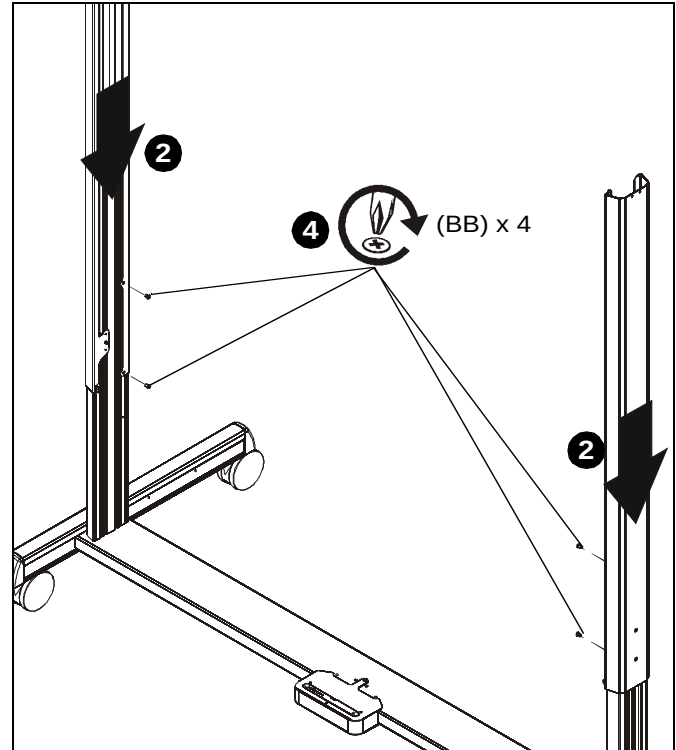

Figure 2
2. Slide two column extenders (J and K) over side columns (H). (See Figure 2)
3. Line up holes on extenders with holes on side columns at desired mounting height. (See Figure 2)
4. Use two #10-24 x 3/8" Phillips pan machine screws (BB) to secure each column extender (J and K) to corresponding side column (H). (See Figure 2)